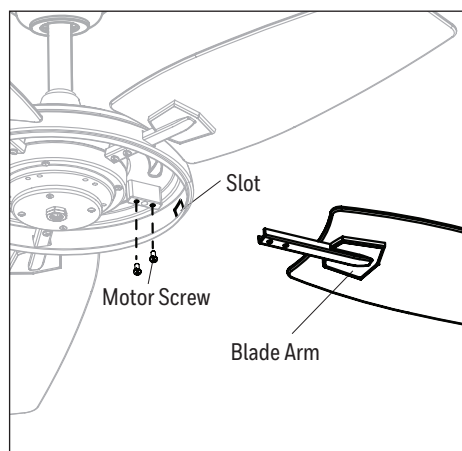

Figure 5.5
5. Insert blade arm through slot in the side of the motor assembly. Align the holes of one blade arm with two motor screw holes in underside of the motor assembly. Secure with two motor screws. Repeat this step for the remaining blade arms (Figure 5.5).